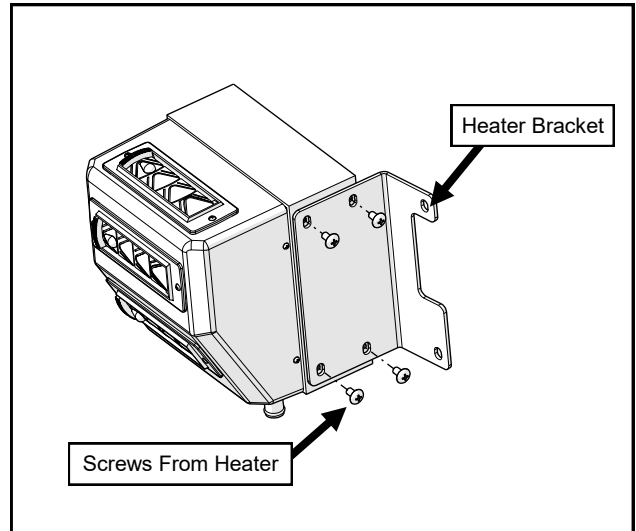

Fig. 1.1 (Pre-assemble Heater to Bracket)
- 1.1 Pre-assemble the heater bracket onto the heater using the screws already installed on the side of the heater. See Figure 1.1. Tighten hardware.